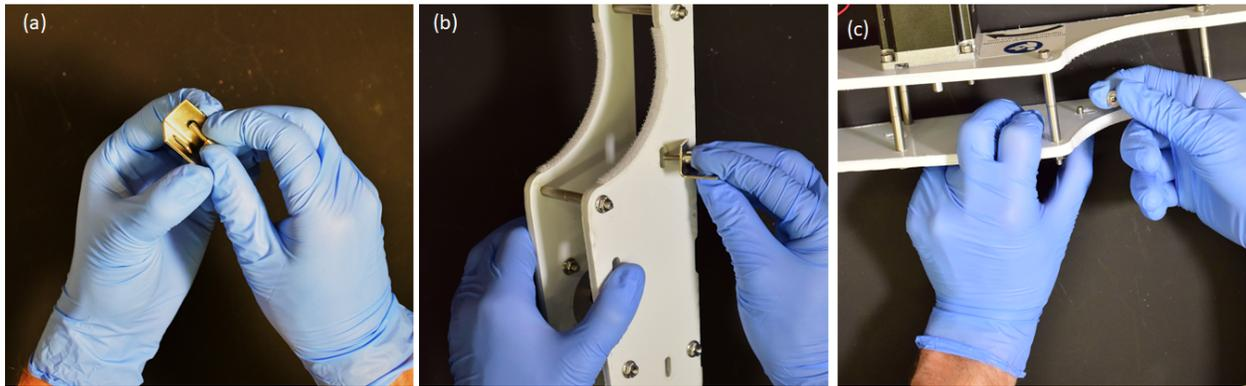

Figure 17
Step 34: Repeat steps 31-33 for both small horizontal slots. Refer to Figure 17.